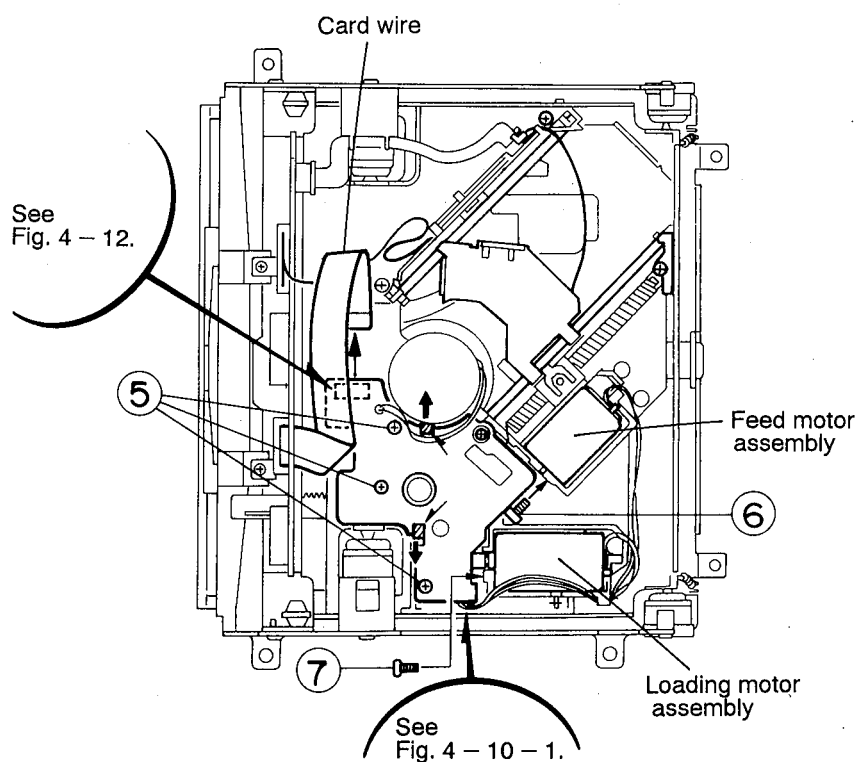

Fig. 4-10
5. From the CD mechanism assembly, remove three screws (5) retaining the switch P.C. board (See Fig. 4-10).
6. Release two engagements (A and B) retaining the switch P.C. board by spreading the engagements in the arrow direction (See Fig. 4-10).
9. Remove the screw (6) retaining the feed motor (See Fig. 4-10).
10. Remove the screw (7) retaining the loading motor (See Fig. 4-10).
11. From the connector on the switch P.C. board, remove the card wire outgoing from the connector on the CD mechanism control relay P.C. board (See Figs. 4-10 and 4-12).